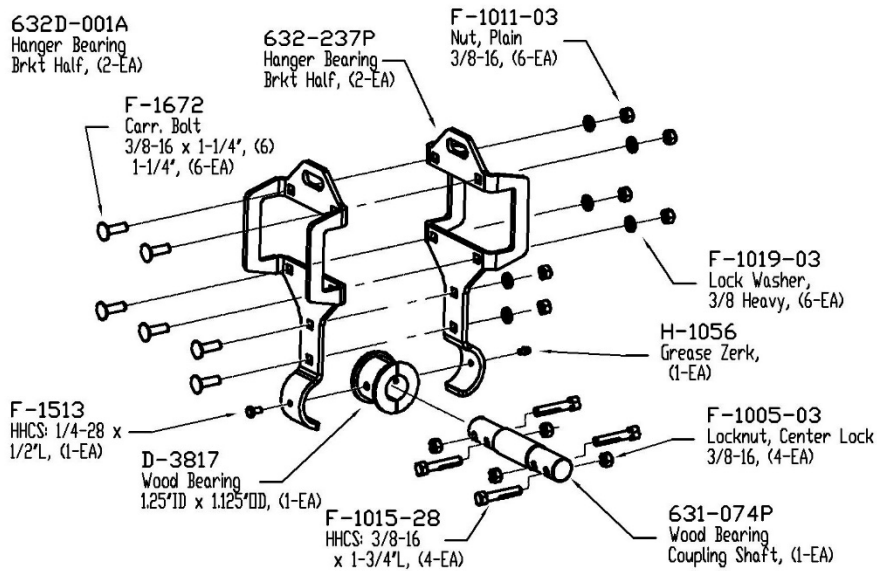

Fig 10.23
- Install the rest of the Wood Hanger Bearing kits as shown in Fig 10.23.